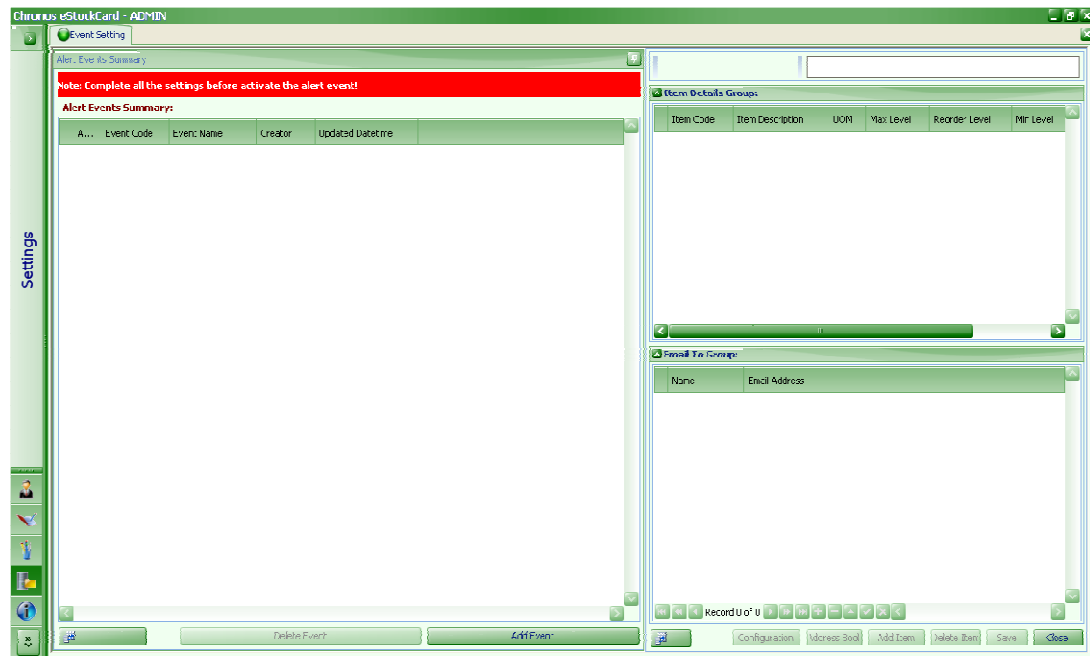

Fig. 61
Step 1 Click “Settings > Alert > Event Setting (Fig. 61)